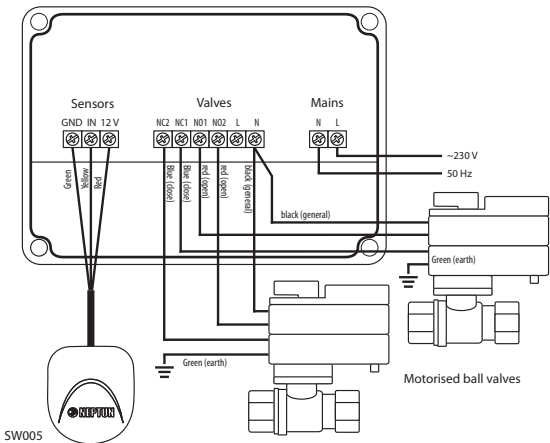

Fig. 2 Connection diagram for the Neptun Bugatti Pro 220V motorised ball valves to the Neptun Base control module.
Connect live and neutral to the Neptun Base control module as per the connection diagram (fig. 2). The servos are grounded outside the control module housing.
2. Connect the wires in accordance with the connection diagram, depending on which motorised valves you are using (fig. 2). The servos are grounded outside the control module housing.